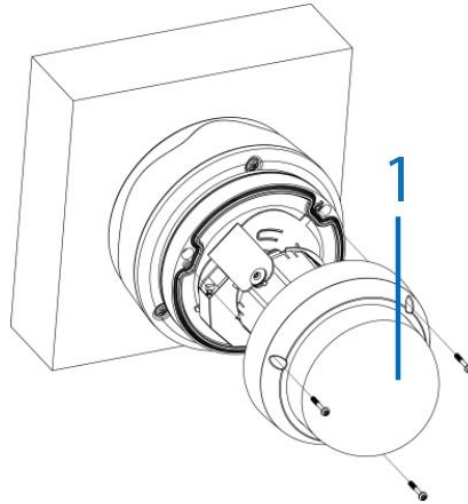

Figure 9
- I. Hold the camera dome (1) (Figure 9) up to the camera base and align the three holes on the dome with the three holes on the camera base, insert the three dome screws into the three holes and securely attach the dome to the camera base.